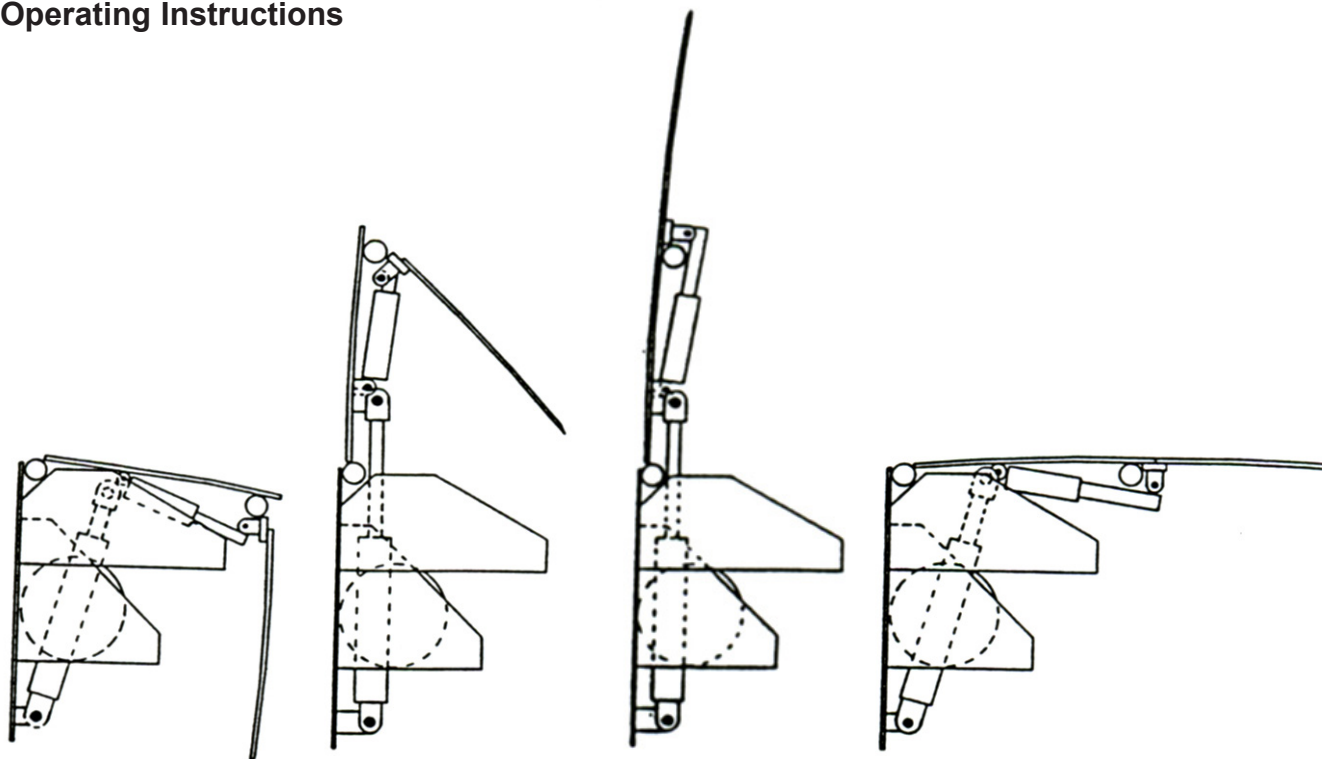

Figure 14
5. Extend the dock leveler onto the transport vehicle as follows (see Figure 14):